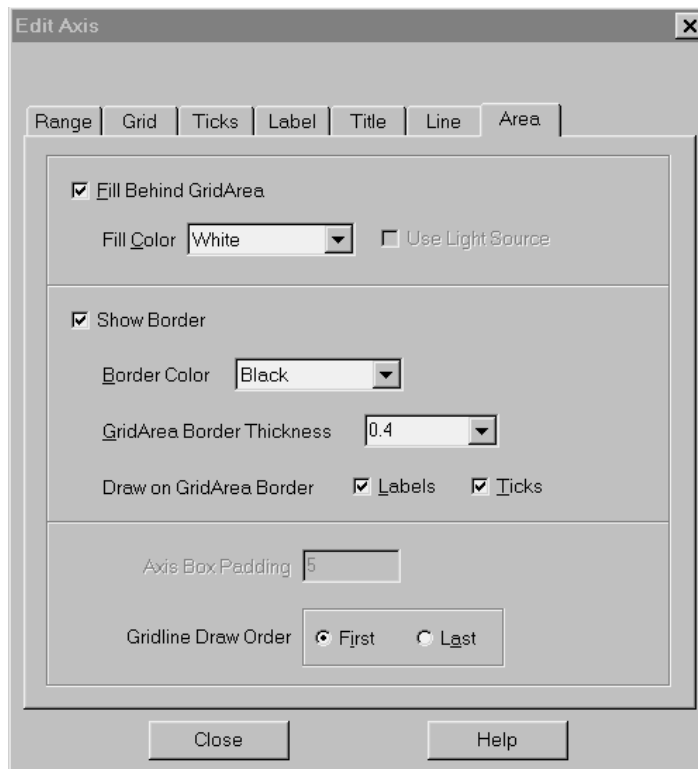

Figure 17-5. The Area page of the Edit Axis dialog.
2. Click on the Area button (Area tab in Windows) to call up the Area page, shown in Figure 17-5.